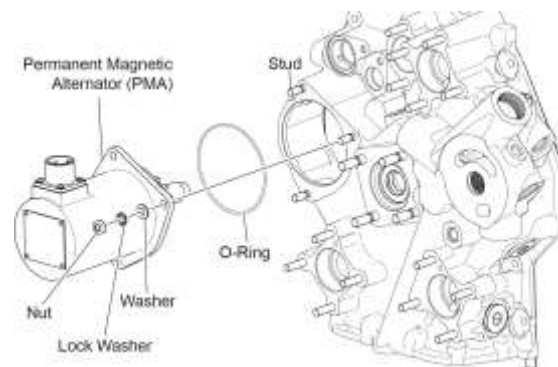

Figure 41
- (1) Remove the three nuts, lock washers, and washers (Figure 41) that attach the PMA to the accessory housing. Discard the lock washers.
- (2) Remove the PMA from the accessory housing.
- (3) Remove and discard the O-ring from the PMA mating surface.
- (6) Install a new O-ring (Figure 41) in the groove of the PMA mating surface.
- (7) Align the holes in the PMA flange with the three studs in the accessory housing as shown in Figure 41.
- (8) Install the PMA by meshing the PMA gear with the idler gear in the accessory housing.
- (9) Attach the PMA to the accessory housing with the three nuts, new lock washers, and washers (Figure 41).
- (10) Torque the nuts in incremental steps to a final torque of 96 in.-lb. (11 Nm).